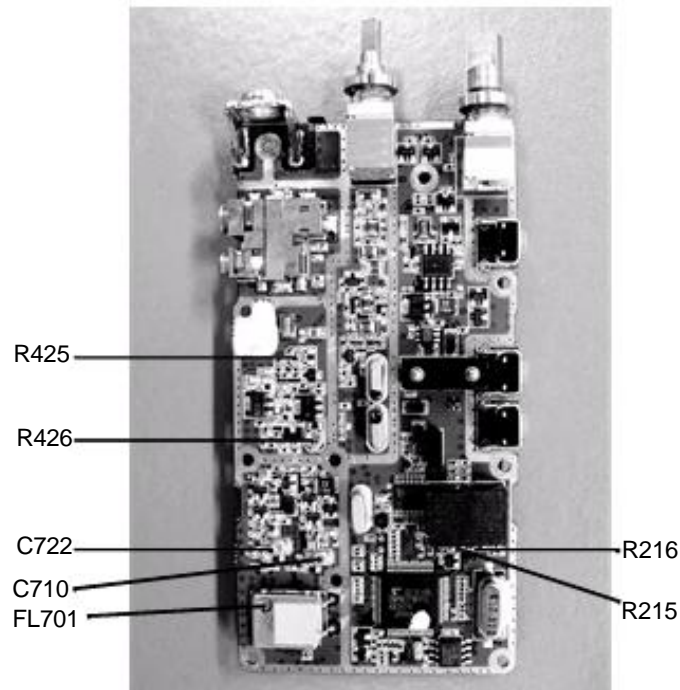

Figure 3-5 Bottom Side of PCB
3. Using the ceramic tool, adjust C710 to tune the voltage to 5.0V +/-0.1V(refer to Figure 3-5).
3. Using the ceramic tool, adjust C722 to tune the voltage below 5.0V +/-0.1V (refer to Figure 3-5).